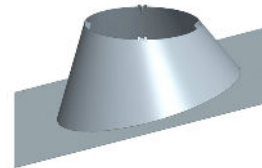

Figure 64 - Adjustable Flashing
The Adjustable Flashing (F30) is used in conjunction with Storm Collar (SC) for weatherization on a roof with a pitch 5° to 30°. See **Figure 64**.